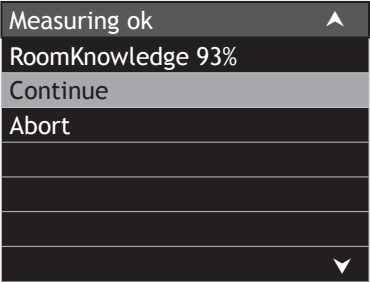

Figure 41
- 10. When the second room position measurements have been completed, the RoomKnowledge Data is now at 93%. Refer to figure 41.